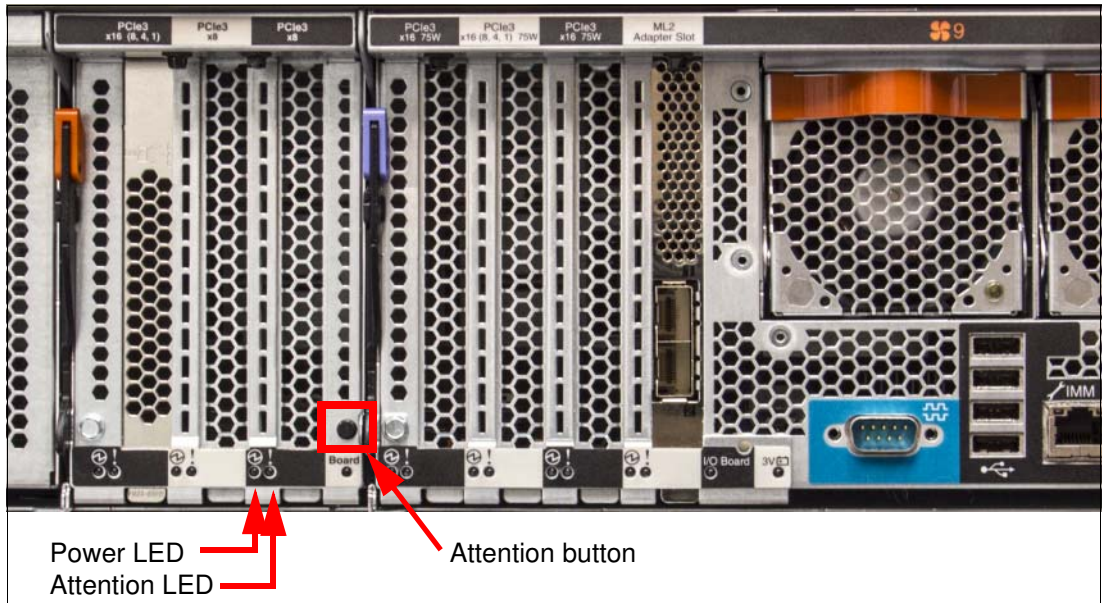

Figure 5-66 Location of the Attention button and LEDs on an Optional I/O Book
2. Press the **Attention** button on the I/O Book to start a hot remove. The Attention button transitions power to offline for the I/O Book. For more information about the location of the Attention button, see Figure 5-66 on page 203.
3. Wait for all three power indicators to turn off (see Figure 5-66). It is now safe to remove the I/O Book.
Table 5-6 lists the meaning of the I/O Book Attention LED. For more information about the location of this LED, see Figure 5-66 on page 203.
Table 5-7 list the meaning of the I/O Book Power LED. For more information about the location of this LED, see Figure 5-66 on page 203.